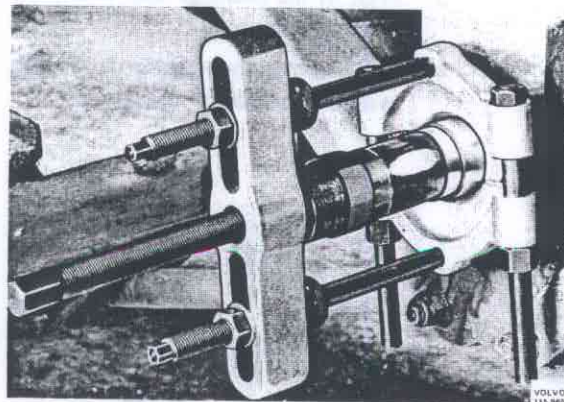

Fig. 76-9. Removing the bearing races
3. Pull off the bearing races (5 and 7) with a jackknife tool, see Fig. 76-9. Pull off both the races at the same time. Remove the dust protective plate by hand.